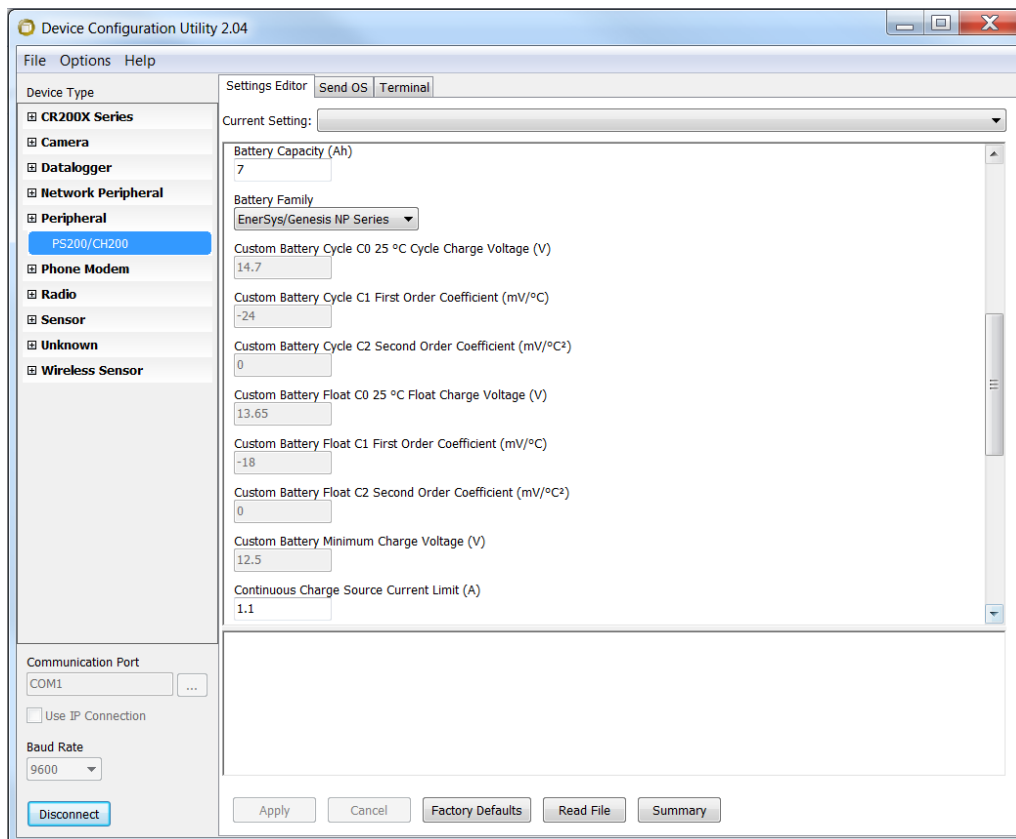

FIGURE 6-3. Device Configuration Utility settings editor
Custom Battery Cycle C ₀ 25°C Cycle Charge Voltage (V)	This field will allow changes made to it when “Custom Battery” is selected for the battery family. This field will be grayed out for any other battery family types and not allow changes made to it. See battery manufacturer information for correct values. See FIGURE 6-3.
Custom Battery Cycle C ₂ First Order Coefficient (mV/°C)	This field will allow changes made to it when “Custom Battery” is selected for the battery family. This field will be grayed out for any other battery family types and not allow changes made to it. See battery manufacturer information for correct values. See FIGURE 6-3.
Custom Battery Cycle C ₂ Second Order Coefficient (mV/°C) ²	This field will allow changes made to it when “Custom Battery” is selected for the battery family. This field will be grayed out for any other battery family types and not allow changes made to it. See battery manufacturer information for correct values. See FIGURE 6-3.
Custom Battery Float C ₀ 25° Cycle Charge Voltage (V)	This field will allow changes made to it when “Custom Battery” is selected for the battery family. This field will be grayed out for any other battery family types and not allow changes made to it. See battery manufacturer information for correct values. See FIGURE 6-3.
Custom Battery Float C ₂ First Order Coefficient (mV/°C)	This field will allow changes made to it when “Custom Battery” is selected for the battery family. This field will be grayed out for any other battery family types and not allow changes made to it. See battery manufacturer information for correct values. See FIGURE 6-3.
Custom Battery Float C ₂ Second Order Coefficient (mV/°C) ²	This field will allow changes made to it when “Custom Battery” is selected for the battery family. This field will be grayed out for any other battery family types and not allow changes made to it. See battery manufacturer information for correct values. See FIGURE 6-3.